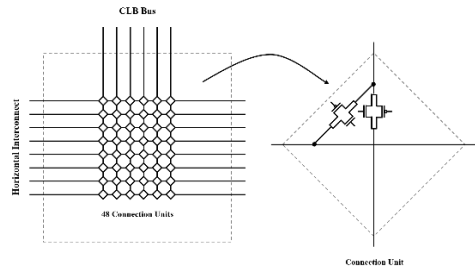

Fig. 3. Connection Block
c. Connection Block: The Connection Block (Fig. 3) contains 48 sub-blocks called Connection Unit, which latches the CLB pins to the interconnects. The latching operation inside each Connection Units is done using 2 transmission gates.